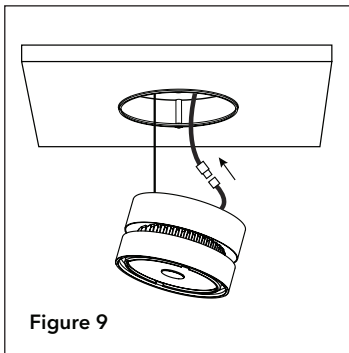

Figure 9
9. Connect power wires from power supply in ceiling to luminaire with quick-connector (Fig. 9).